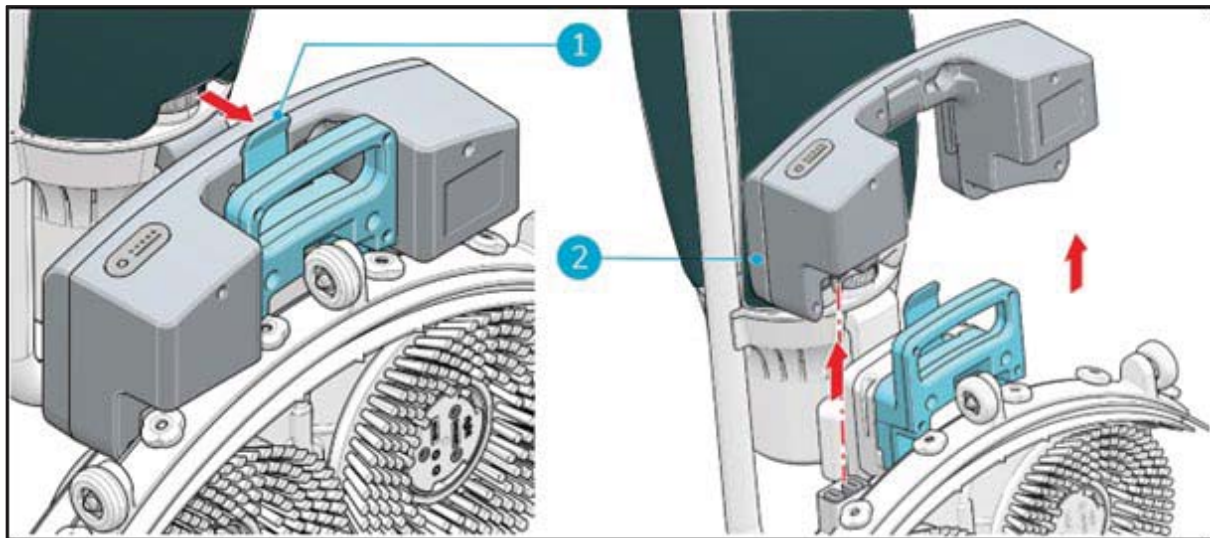

Figure 23
3. Press the retaining clip inwards (Figure 23, pos 1) Battery will lift from its anchor, pull the battery away (Figure 23, pos 2).